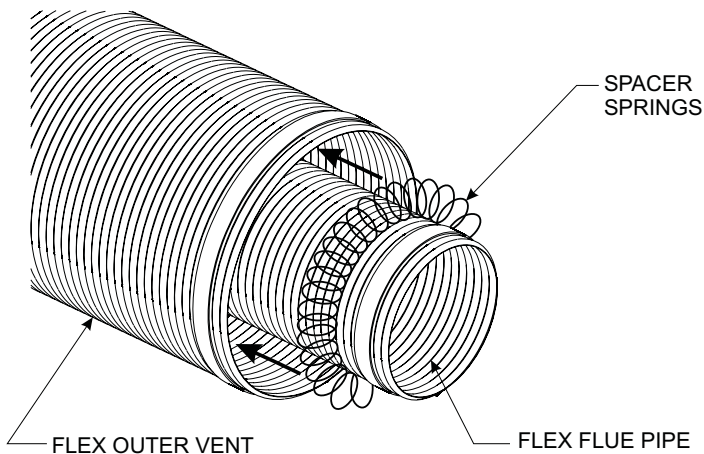
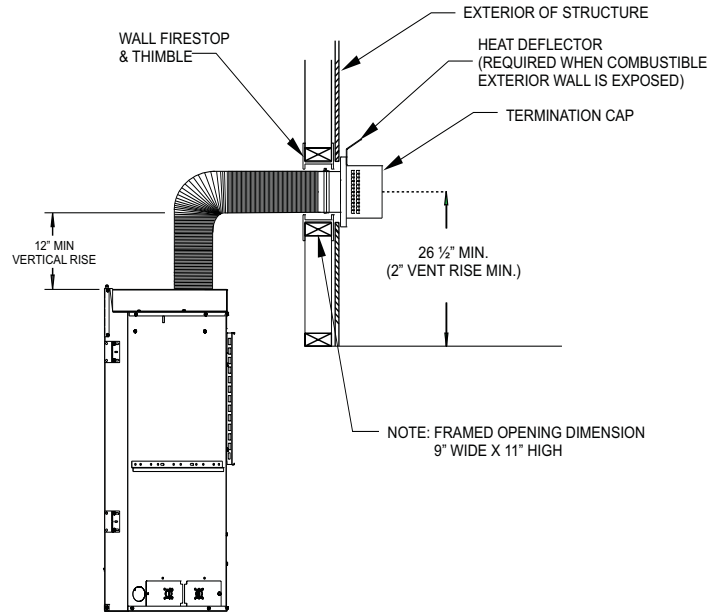

Figure 63
Figure 64
2. Check to see that the vent spacer springs are located around the flue vent at 8-in and 12-in intervals along its length. **See Figure 63.** If not, stretch the spacer springs to about 15-in long and wrap them around the flue, then interlock the ends of each spring about 2-in. **See Figure 64.** Maintain equal distance between spring spacers.